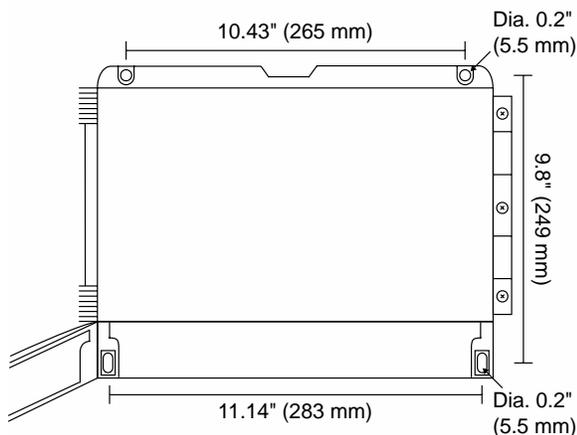

Figure 2. Meter Mounting Holes Dimensions
- Select the appropriate mounting screws for the mounting surface to be used. The mounting holes diameter is shown on Figure 2.